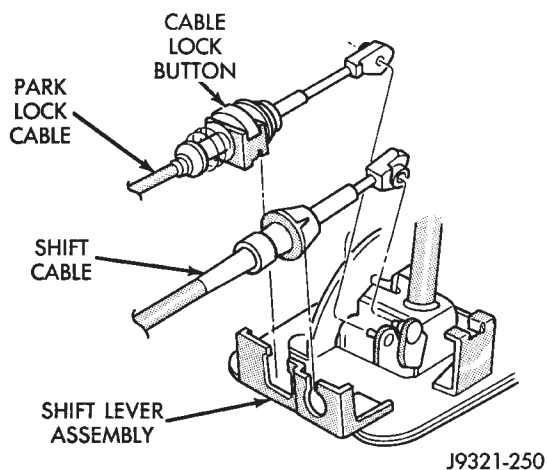

Fig. 3 Park Lock Cable Attachment (XJ)
- (1) Shift transmission into Park.
- (2) Turn ignition switch to Lock position.
- (3) Remove shift lever bezel and console screws. Raise bezel and console for access to cable.
(4) Pull cable lock button up to release cable (Fig. 3).
(5) Pull cable forward. Then release cable and press cable lock button down until it snaps in place.
(6) Check adjustment as follows: